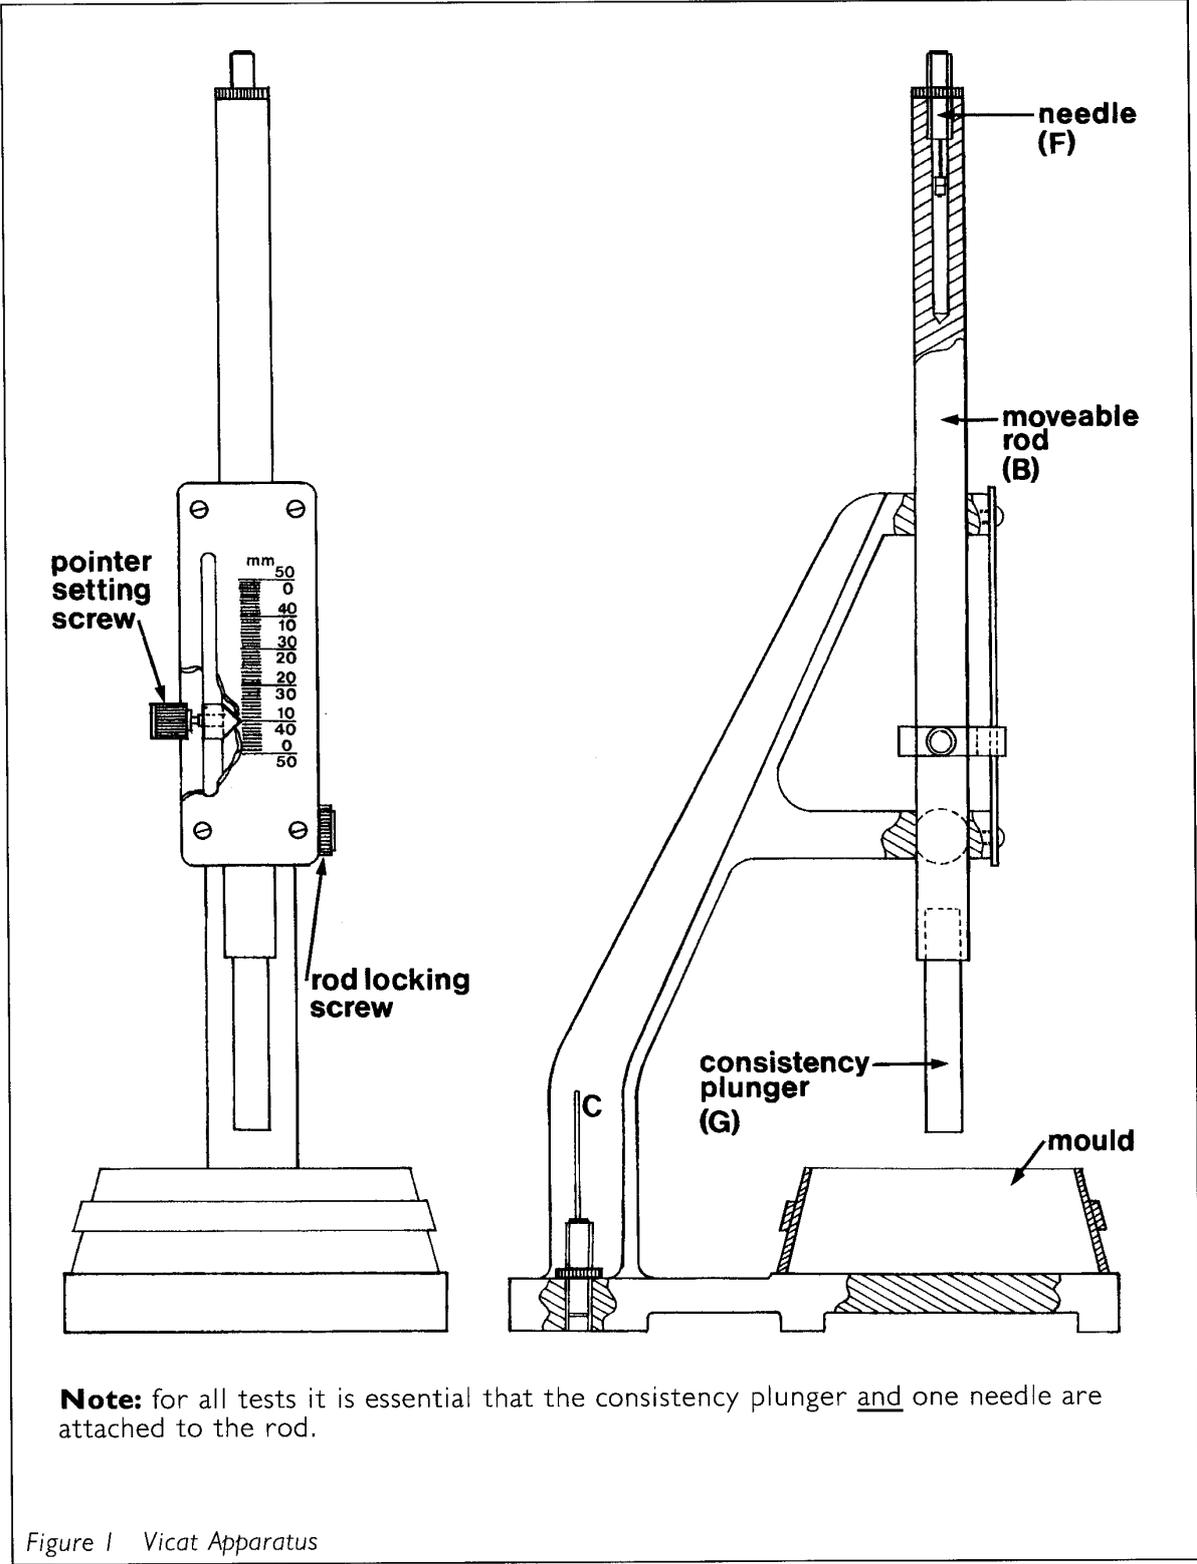

Figure 1 Vicat Apparatus
- 1.2 The vicat apparatus in its general arrangement is illustrated in figure 1.
- 2.1 To ensure that a consistent weight of 300g is applied to the specimen, it is essential that the moveable rod (B) always carries the consistency plunger (G) and one needle (C or F, as illustrated in figure 1).